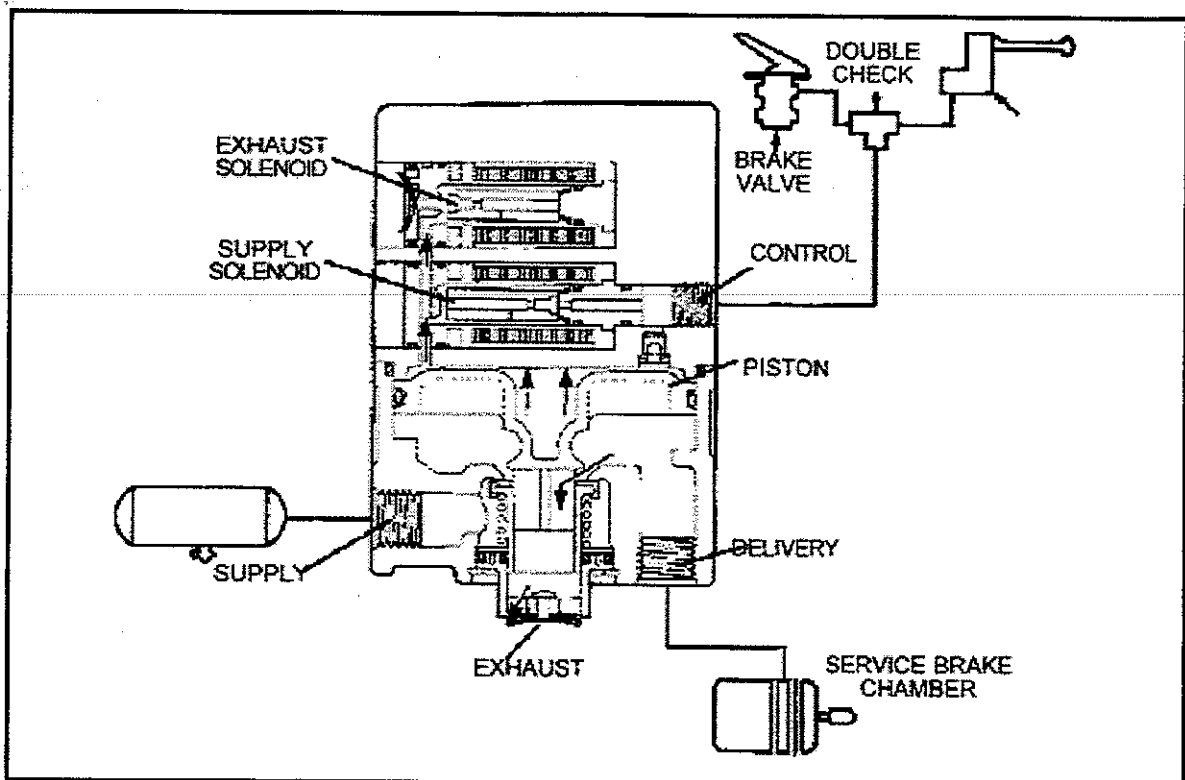

Figure 7—Antilock Mode Solenoids Activated
- See Figure 7—Exhaust Normal Service Application